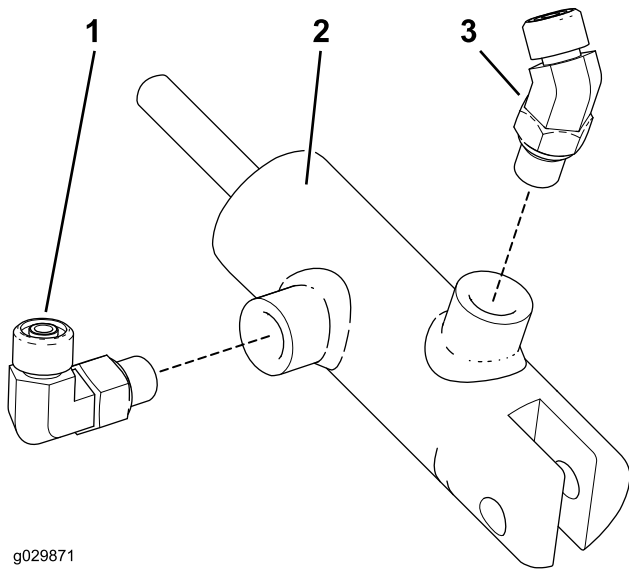

Figure 2
1. Install the hydraulic fitting (45 degree) to the cylinder-retract port on the hydraulic cylinder (Figure 2).
4. Install the hydraulic fitting (90 degree) to the cylinder-extend port on the hydraulic cylinder (Figure 2).